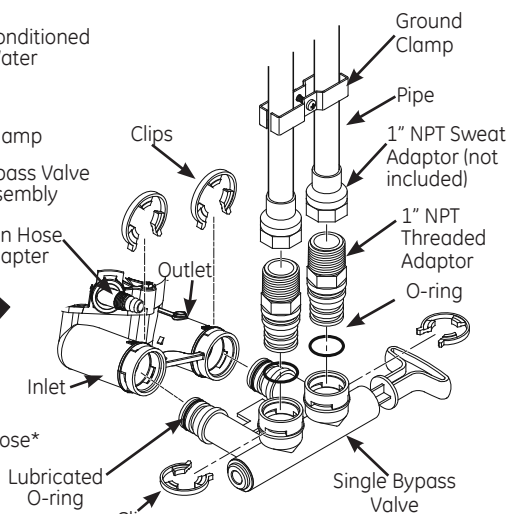

Figure 7
1. Visually check and remove any debris from the water softener valve inlet and outlet ports, (see Figure 7).
3. If not already done, put a light coating of silicone grease (provided) on the single bypass valve o-rings, (see Figure 7).
4. Push the single bypass valve into the softener valve as far as it will go. Snap the two large holding clips into place, from the top down, (see Figure 7 and 10).